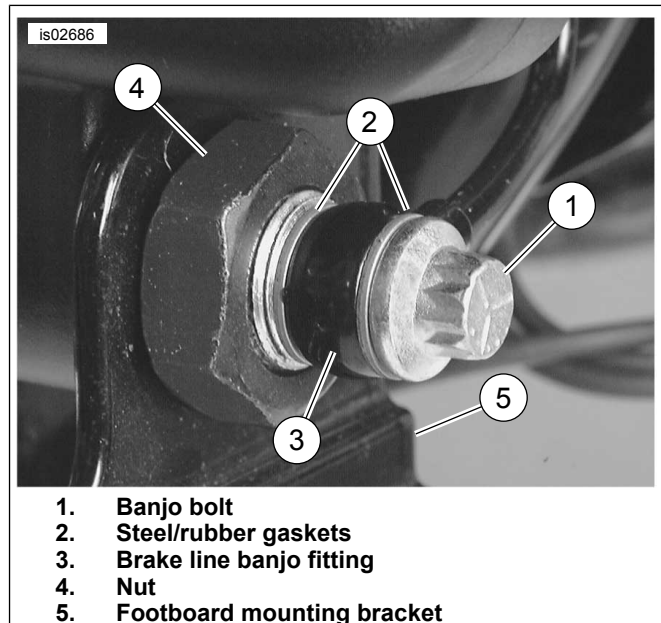

Figure 3. Rear Brake Reservoir Mount
7. See Figure 3. Fit the collar of the master cylinder cartridge body into the hole of the new right-side footboard mounting bracket (5). Apply LOCTITE® 243 (Blue) to the threads of the nut (4). Install the nut on the cartridge body until finger tight. Tighten to 40.7–54.2 N·m (30–40 ft-lbs).